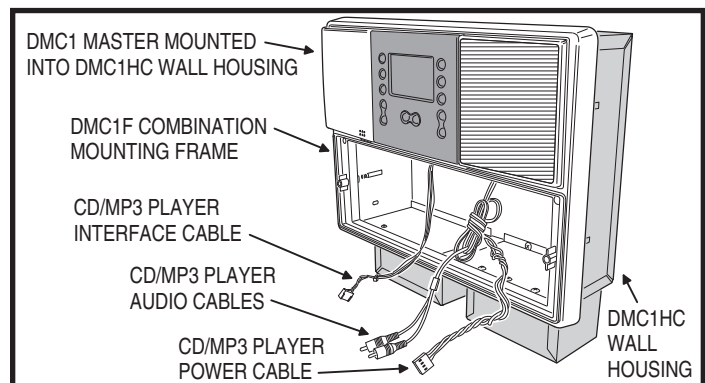

Figure 24. DMC1 & DMC1F Frame Ready for CD/MP3 Player
7. Secure the DMC1 Master Station to the wall housing using the two long screws provided (see Figure 24). DO NOT OVERTIGHTEN THE SCREWS THE FRAME MIGHT DISTORT OR CRACK!